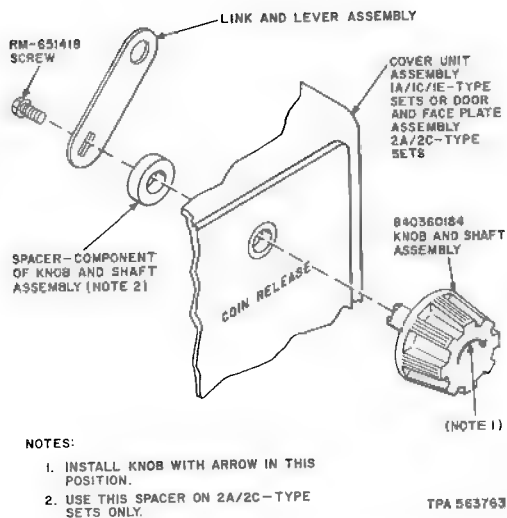

Fig. 32—Installation of 840360184 Knob and Shaft Assembly
2.45 To replace the lever-type coin release with the knob-type (Fig. 32):